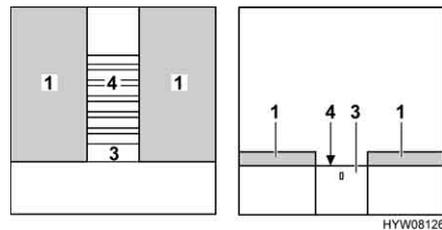

Fig. 108 During conversion
- Pull out slatted frame (Fig. 108,4) completely. To do this, pull on the extension (Fig. 108,3).